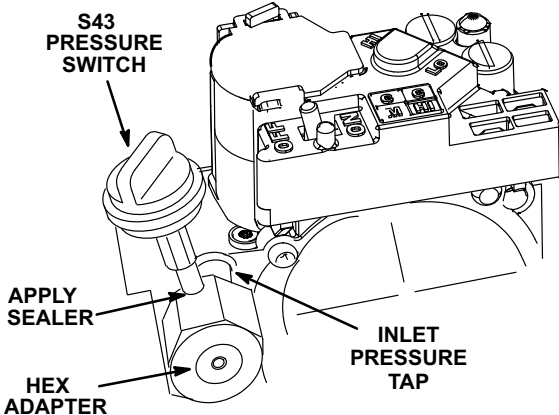

FIGURE 6
- 2- Install the hex adapter and pressure switch on the inlet pressure tap of the two-stage gas valve. Apply pipe sealer to at least the first three threads of hex adapter. See figure 6.